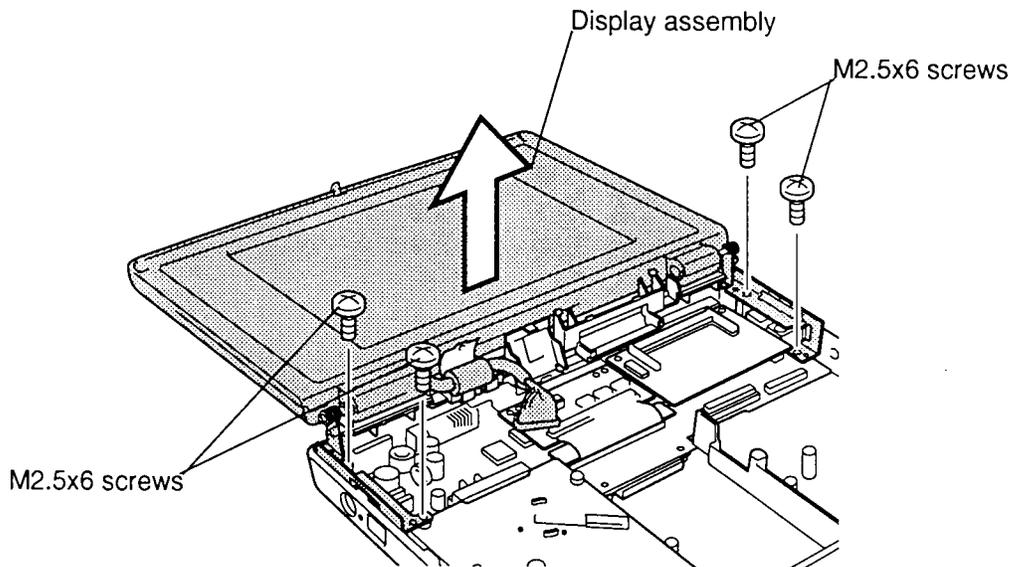

Figure 4-23 *Removing the display assembly*
7. Remove the **four M2.5x6 screws** on the system unit, then lift off the **display assembly** (figure 4-23).
1. Secure the **four M2.5x6 screws** on the display hinges to secure the **display assembly** (figure 4-23).